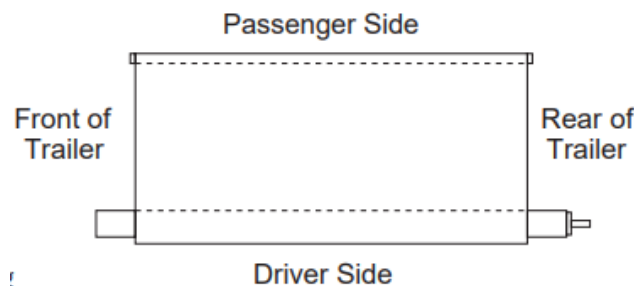

Figure 9.1
1. Place the tarp assembly on top of the trailer tub bulkheads. The long adapter shaft positioned toward the swing arm end of the trailer. Refer to **Figure 9.1**.